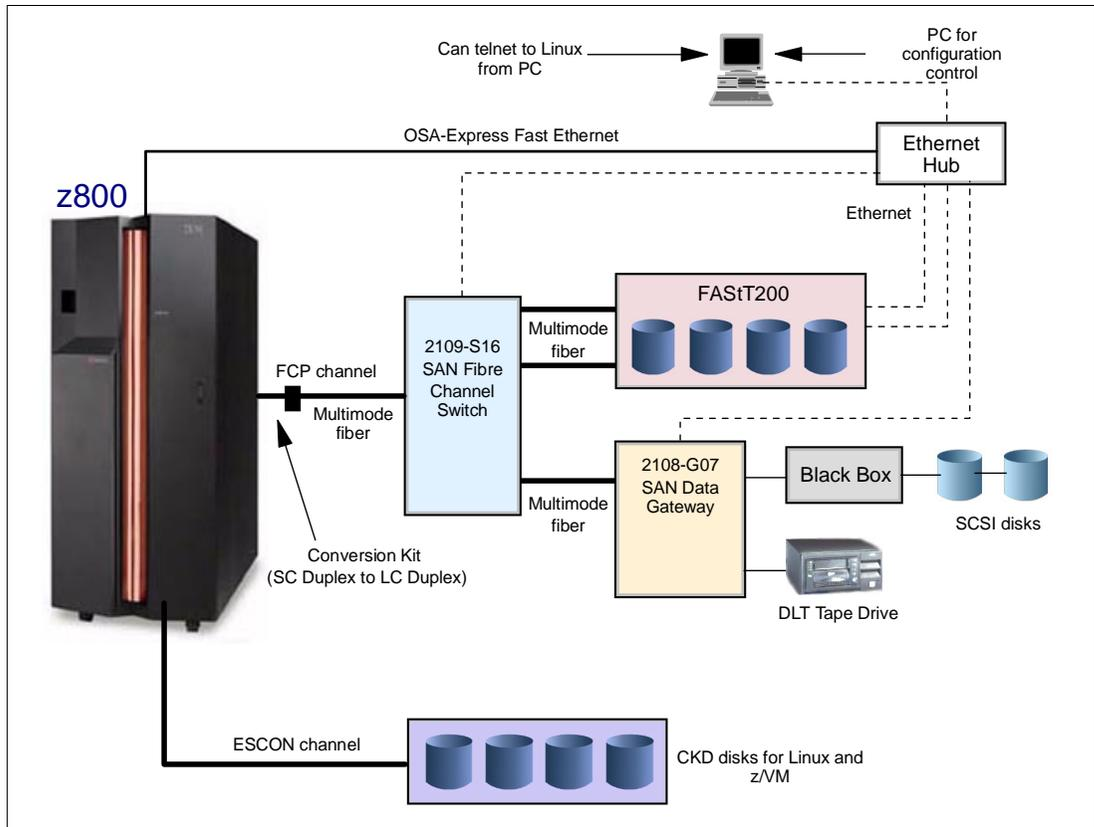

Figure 11 Hardware for initial ITSO operation
This section provides a short description of the devices we used to demonstrate the necessary steps and definitions to set up our zSeries FCP environment, shown in Figure 11 on page 20.
Figure 11 on page 20 provides an overview of the hardware configuration we used while writing this paper. It is not intended to represent physical sizes, but rather to delineate a typical small FCP environment. The FC Switch, Data Gateway, and FAStT200 are all small, desktop units.
- ▶ Not shown in Figure 11 on page 20 are two null-modem serial port cables: one cable with an RJ45 connector on one end and 9-pin D-shell on the other end, and the other cable with 9-pin D-shell connectors on both ends. These cables are used with the FAStT200 and Gateway for initial setup (primarily to assign IP addresses to the units). One cable was supplied with the FAStT200 unit.
We set up our devices, as shown in Figure 11 on page 20, in an orderly way and gathered the mapping information we would need later for Linux. We initially installed the devices using default settings whenever possible. For this setup we used no LUN masking or zoning—meaning that any Linux system with access to the devices could access *all* devices. (Expressed another way, we took the simplest setup we could devise.)
You need to connect **telnet** sessions and other applications between a PC (running a current release of Microsoft Windows and using an Ethernet adapter) and several boxes, as shown by the dotted lines in Figure 11 on page 20. This can be done using a public LAN, provided you have assigned IP addresses you can use for the boxes.
The Black Box converter, shown in Figure 11 on page 20, is transparent to the rest of the hardware and had no address or other setup associated with it. It was required because the Data Gateway has only differential SCSI connections, and our old SCSI disk drives are single-ended SCSI devices. Our DLT tape drive is differential SCSI and connected directly to one of the SCSI adapters in the Gateway. All these connections use 68-pin cables.